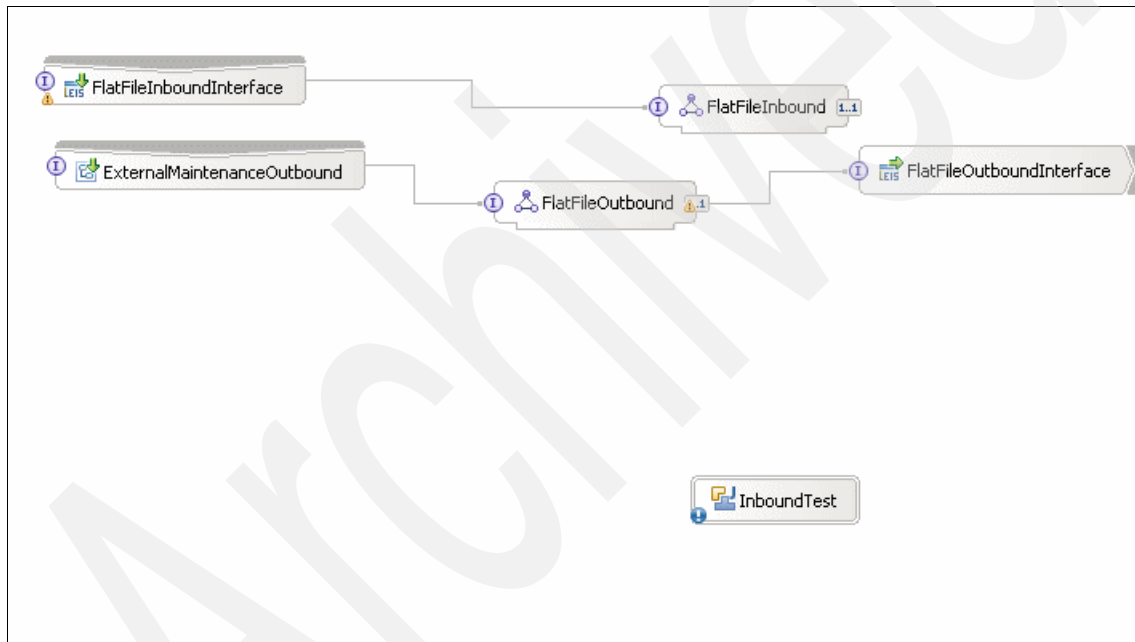

Figure 3-27 Add a Java component
1. Add a Java component to the assembly diagram (Figure 3-27).